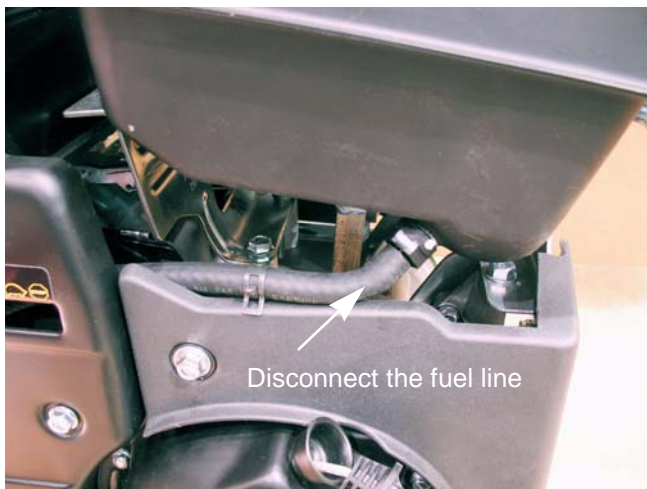

Figure 4.6
3. Lift up on the fuel tank and disconnect the fuel line. See Figure 4.6.